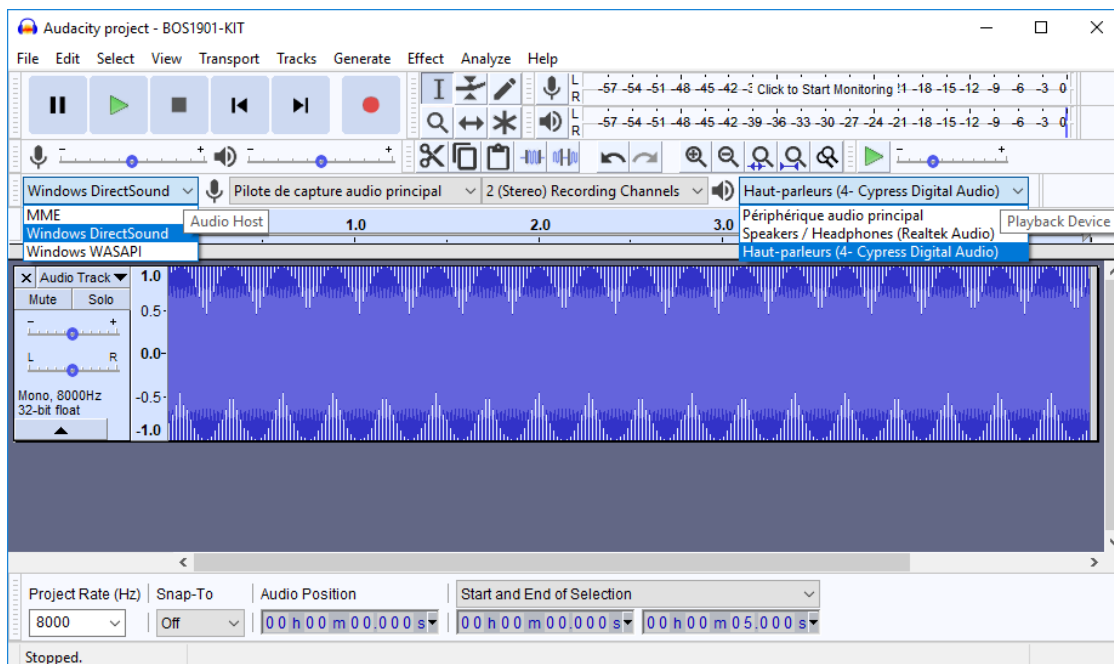

Figure 6: Audacity® software interface
3. Select the appropriate Audio Host (see Figure 6):
4. Select "Cypress Digital Audio" as the Playback Device (see Figure 6).